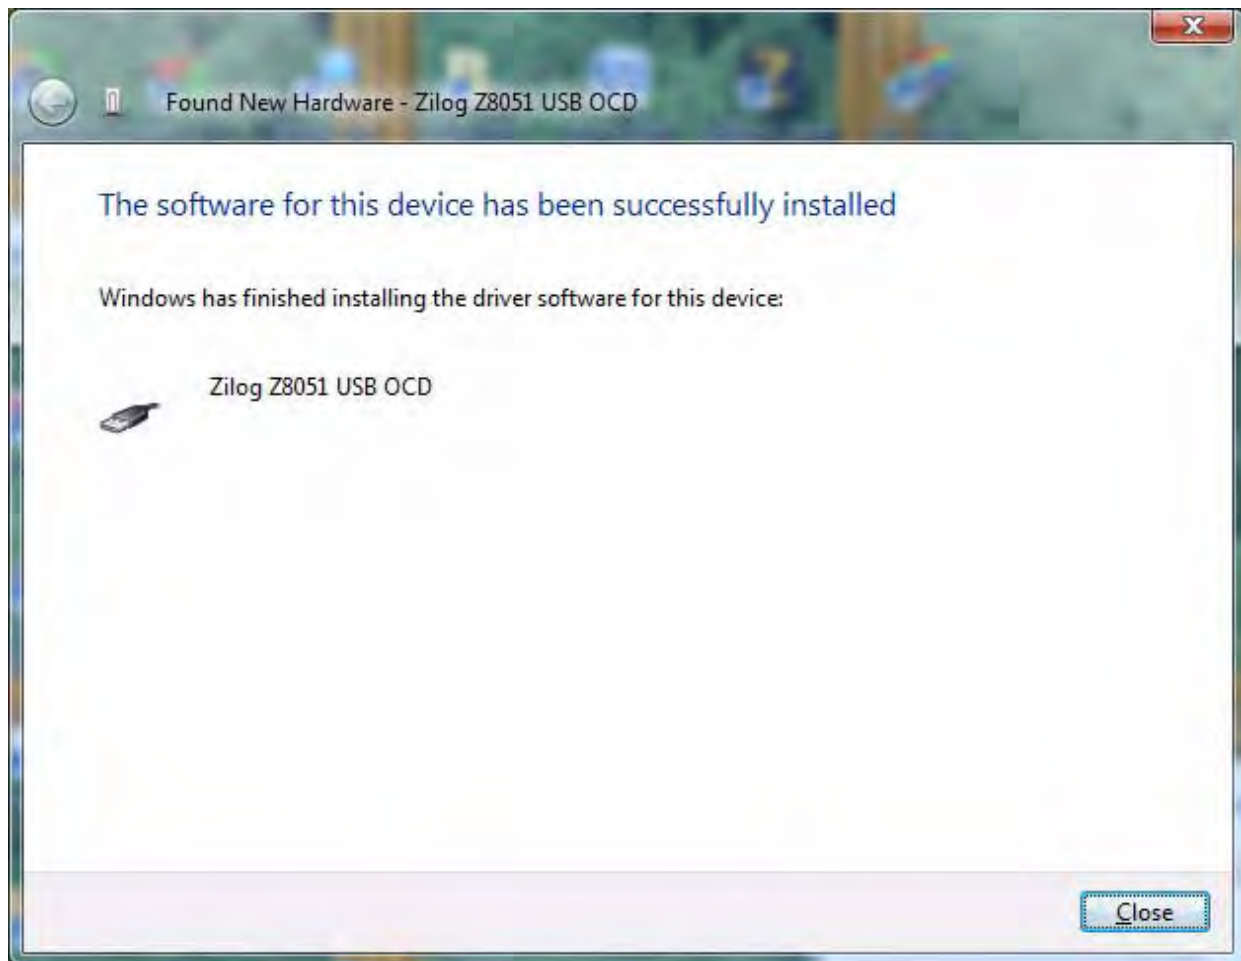

Figure 24. Successfully Installed Dialog, Windows Vista
7. When the installation is complete, the screen shown in Figure 24 will appear. Click **Close** to exit the OCD driver installation.
► **Note:** On some installations, the Found New Hardware screen shown in Figure 24 may also display the text string, Zilog Z8051 USB OCD - No Firmware. This occurrence is normal and can be disregarded.